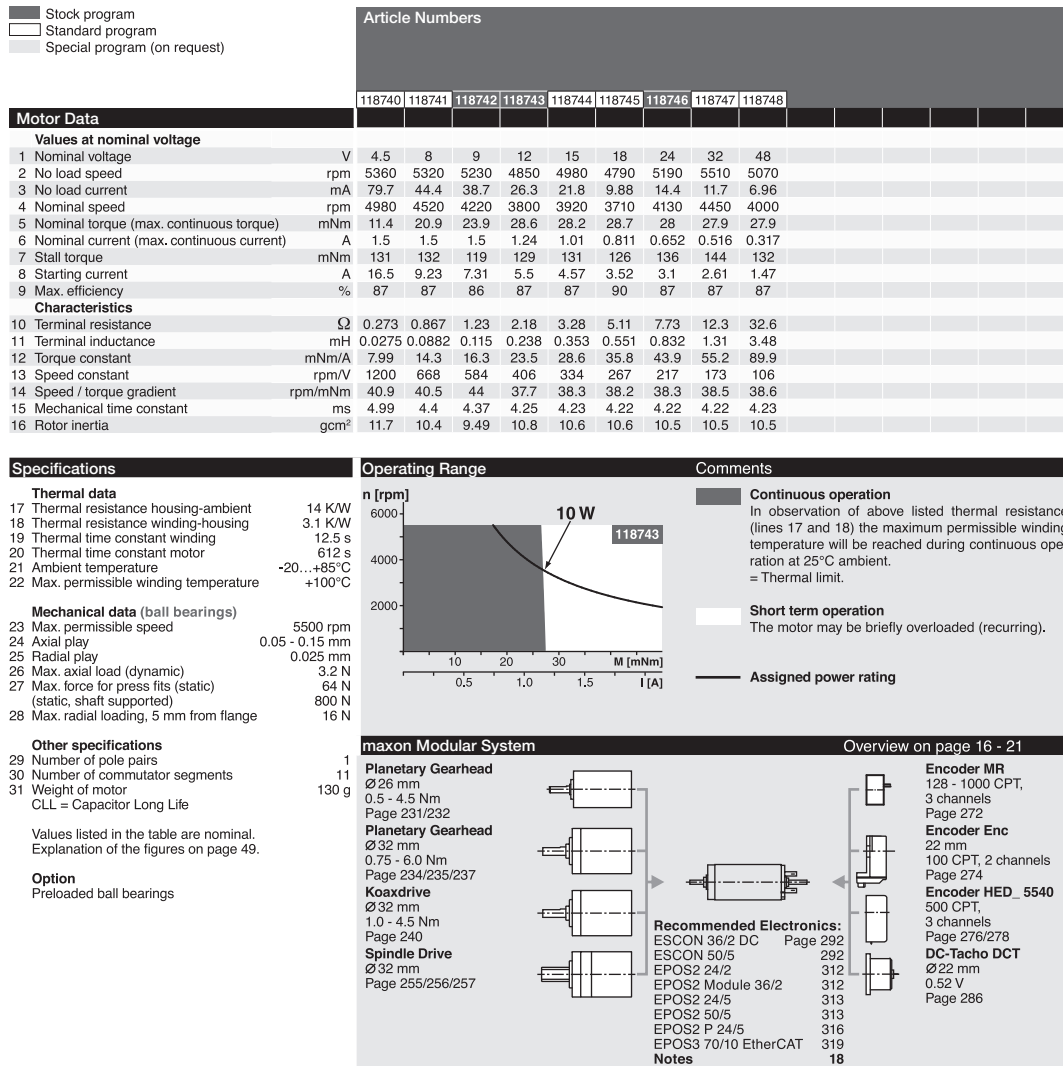

Figure 25.16
2. Figure 25.16 gives the data sheet for the 10 W Maxon RE 25 motor. The columns correspond to different windings.
- i. (Optional) Motor manufacturers may specify slightly different continuous and intermittent operating regions than the ones described in this chapter. For example, the limit of the continuous operating region is not quite vertical in the speed-torque plot of Figure 25.16. Come up with a possible explanation, perhaps using online resources.